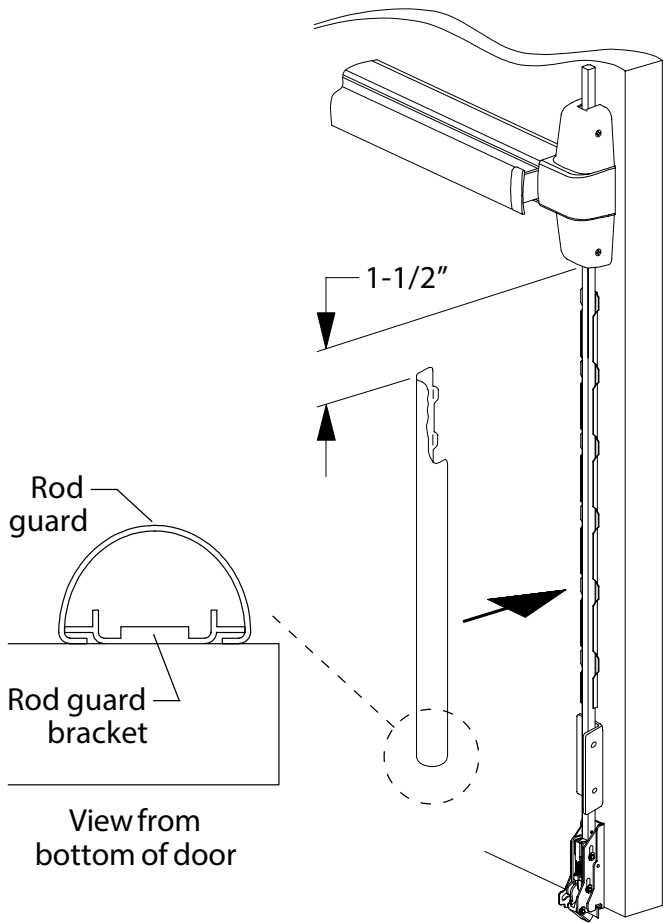

Figure 10
- 13 Place rod guard over rod guard bracket on door 1-1/2" below center case cover with cut end of rod guard toward latch (Figure 10). Push rod guard towards device so tabs on rod guard slide under tabs on rod guard bracket.